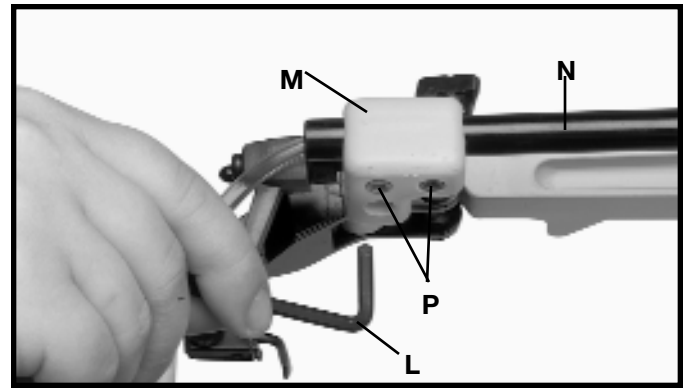

Fig. 11
9. Using the 4mm wrench (L) Fig. 11, loosen the two screws (P) on bottom of bracket (M) that fasten bracket to rod (N).